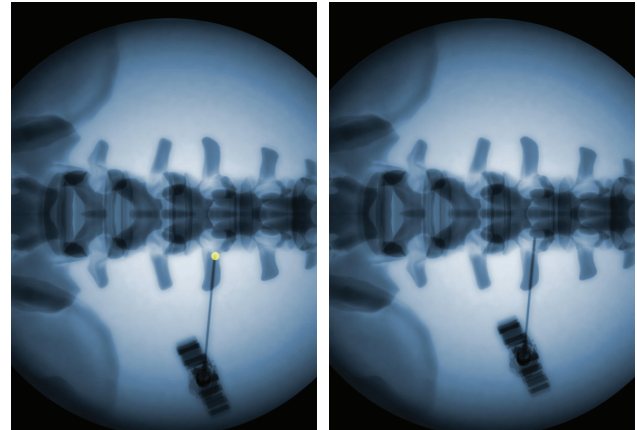

Figure 8
- Due to the nature of the pedicle anatomy, care should be taken to ensure that the starting point of the targeting needle begins in the proper trajectory and plane (Figure 8).